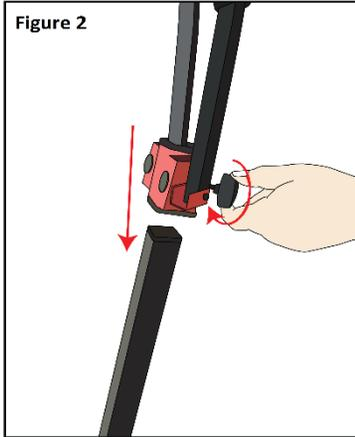

Figure 2
Step 2 - Take **Part A** (folding mounting arms) as labeled in the Parts List and insert it on the top of the main shaft (**Part E**). The height of **Part A** or the mount for mixers is fully adjustable by adjusting it along the shaft where your desired height would be. When you are satisfied on where the mount is on the main shaft, tighten the knob as shown in **Figure 2**.